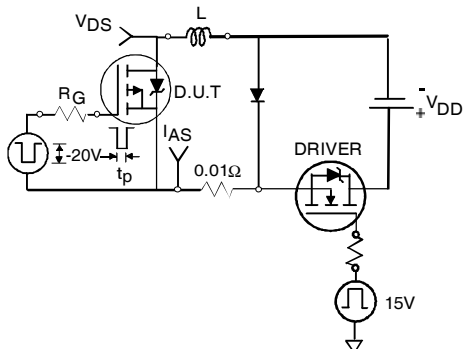

Fig 12a. Unclamped Inductive Test Circuit
- ③ Pulse width $\leq 1.0\text{ms}$; duty cycle $\leq 2\%$.
- ④ $C_{oss\ eff.}$ is a fixed capacitance that gives the same charging time as C_{oss} while V_{DS} is rising from 0 to 80% V_{DSS} .
- ⑤ Limited by T_{Jmax} , see Fig.12a, 12b, 15, 16 for typical repetitive avalanche performance.
- ⑥ This value determined from sample failure population. 100% tested to this value in production.
- ⑦ This is applied to D²Pak, when mounted on 1" square PCB (FR-4 or G-10 Material). For recommended footprint and soldering techniques refer to application note #AN-994.
- ⑧ R_θ is measured at T_J approximately 90°C
3. Equation below based on circuit and waveforms shown in Figures 12a, 12b.